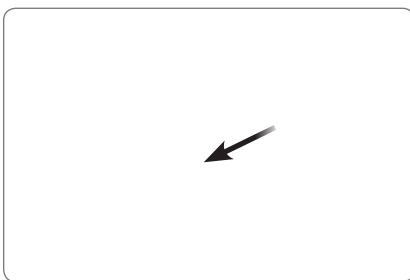

Figure 6
*For Taps 8mm diameter and larger, the 8.0mm Sleeve must slide over the back of the Classic Working End prior to attachment to the POWEREASE® Driver (Figure 6).*